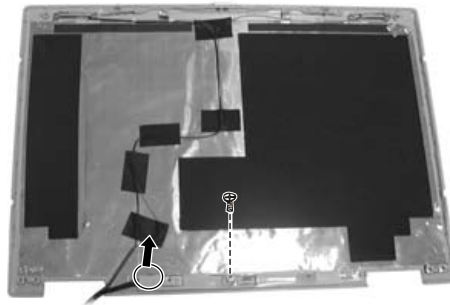

Figure 2-29 Free the inverter board
3. Remove the one screw fastening the inverter board and disconnect the cable, Then free the inverter board. (Figure 2-29)